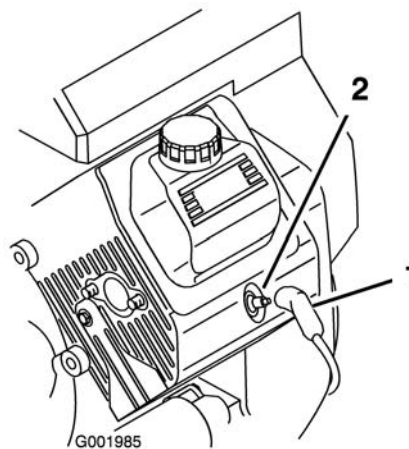

Figure 47
- Pull the wires off the spark plugs (Figure 47).
3. Push the wires onto the spark plugs (Figure 47).